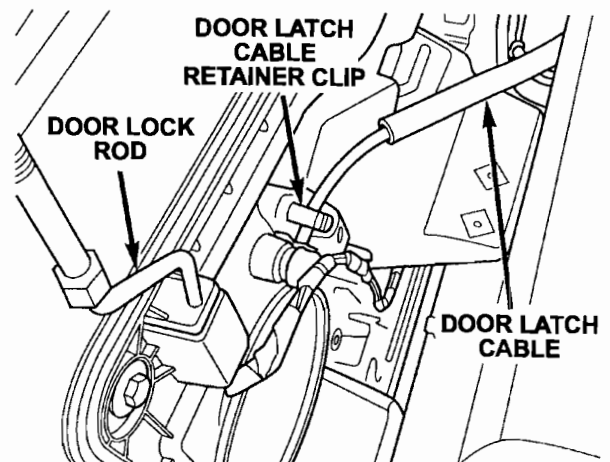

Figure 12
39. Snap the door latch cable to the cable retainer clip and install the door trim panel to the door (Figure 12).